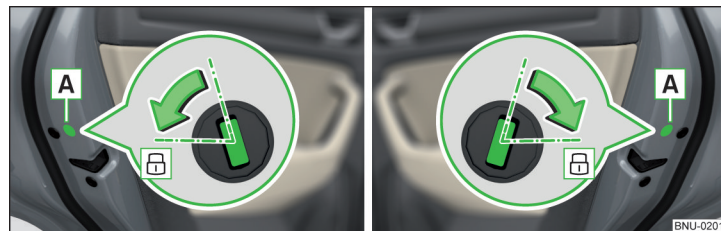

Fig. 334 Left door/right door:
- › In vehicles with the panel **A**, remove this panel » Fig. 334.